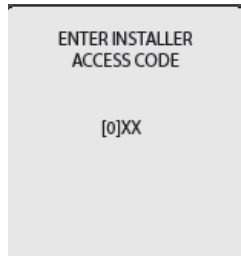

Fig. 5: Installer Access Code
11. Press the CENTER button while the FAN icon is highlighted to manually fire the burner and power the CH circulator. See Fig. 5